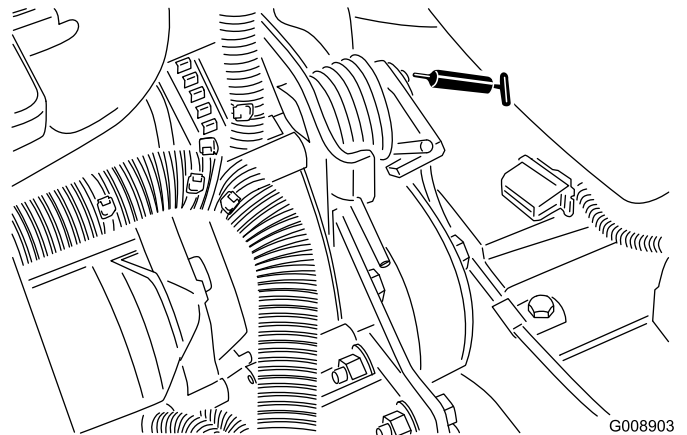

Figure 56
- Belt tension pivot (Figure 56)